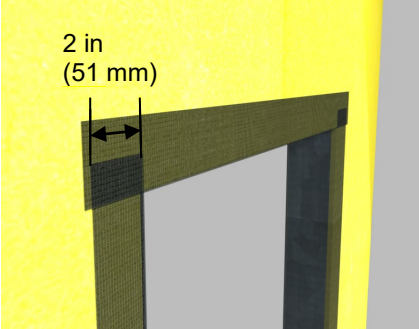

Figure 4
5) Install the AquaFlash System at the head overlapping the jamb pieces a minimum of 2 in (51 mm) – Figure 4.